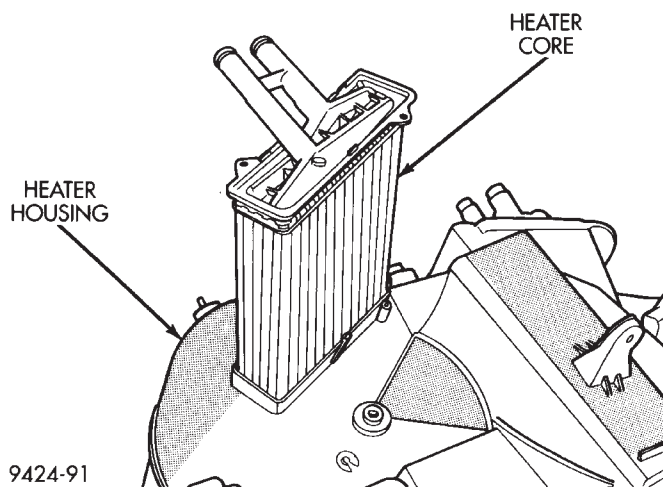
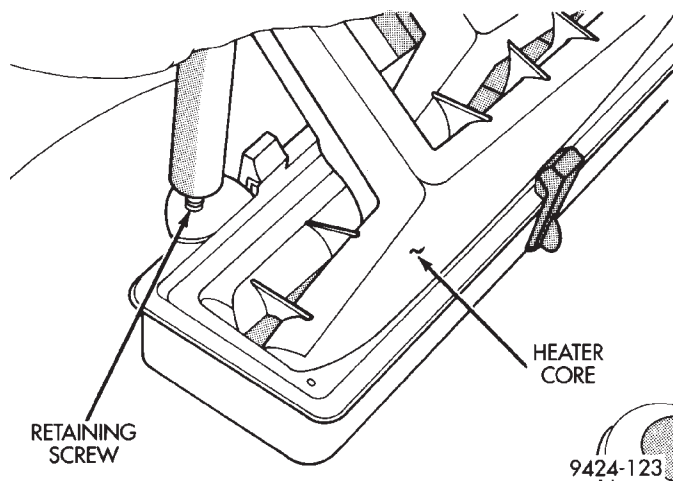

Fig. 98 Heater Core
Fig. 99 Heater Core Retaining Screws
(26) Install heater core into A/C housing (Fig. 98). Retain core with screws (Fig. 99).